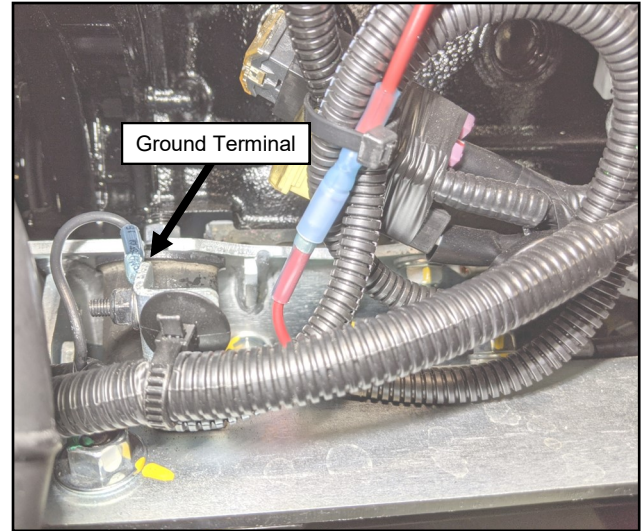

Fig. 19.4 (Connect Ground Terminal)
19.4 Connect the ground terminal to the vehicle bracket shown in Figure 19.4.